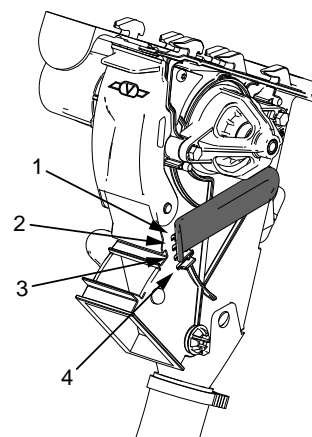

Figure 5.31
2. Set the bottom flaps, see "Figure 5.31 " to the right position according to the table Output settings for micro-granulate.